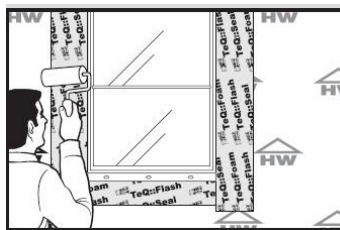

Figure 8
- 4.3.1 Roll smooth to ensure air bubbles are removed and intimate contact is made between substrates (Figure 8).